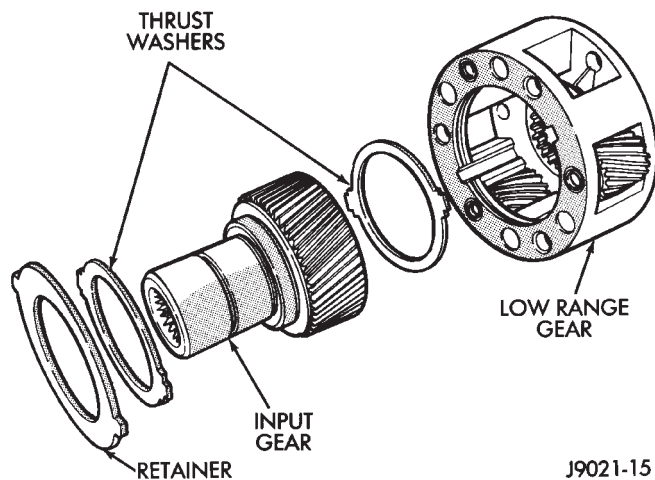

Fig. 27 Input And Low Range Gear Components
(37) Remove retainer, thrust washers and input gear from low range gear (Fig. 27).
(38) Remove oil seals from rear retainer, rear extension housing, oil pump feed housing and case halves.
(39) Remove magnet from pocket in front case.